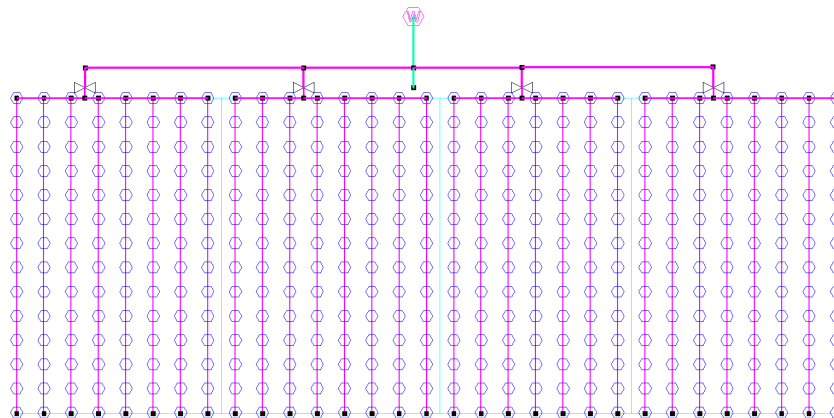

Figure 4-47
- Run a mainline pipe from the existing mainline to the left and to the right above the new valves. Now select **Tools|Connect Valves** for IRRICAD to automatically connect mainline pipe to the new valves. See Figure 4-47. Select and delete the center mainline pipe below the intersection of the new mainline pipes.